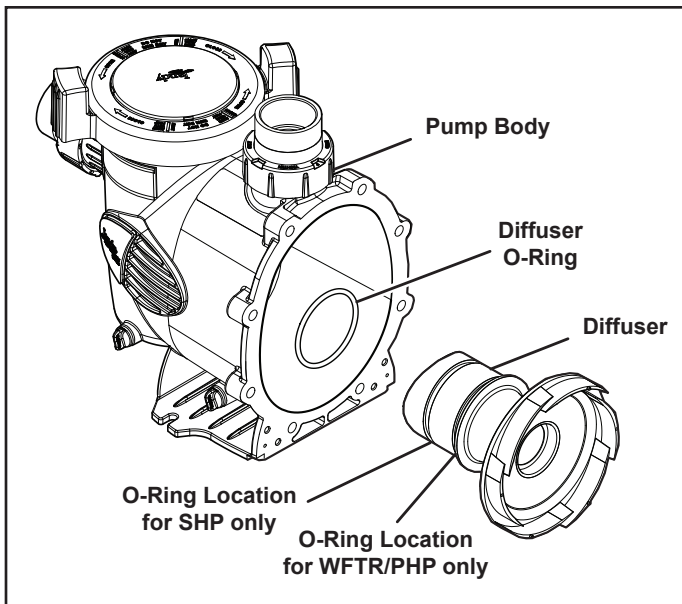

Figure 5. Location of Diffuser O-ring
7. Make sure the diffuser o-ring, o-ring groove, and o-ring seal area are clean and free of debris, which could cause a leak. If you removed the diffuser o-ring, make sure you install it into the proper groove, see Figure 5. If grease is used to retain the o-ring, it **must** be silicone based. **Do not** use petroleum-based grease. It **will** destroy the o-ring.
8. Slide the diffuser into the mating hole in the pump body. While supporting the motor, start two (2) screws on opposite sides. This will hold the motor in position while you start the other six (6) screws.
9. Tighten the screws lightly in a crossing "X" pattern using a 9/16" wrench starting with the inner (middle) four (4), then the outer (top and bottom) four (4) to draw the backplate to the body in an even manner. Once all the screws are snug, torque in the same order to 18 foot-pounds.